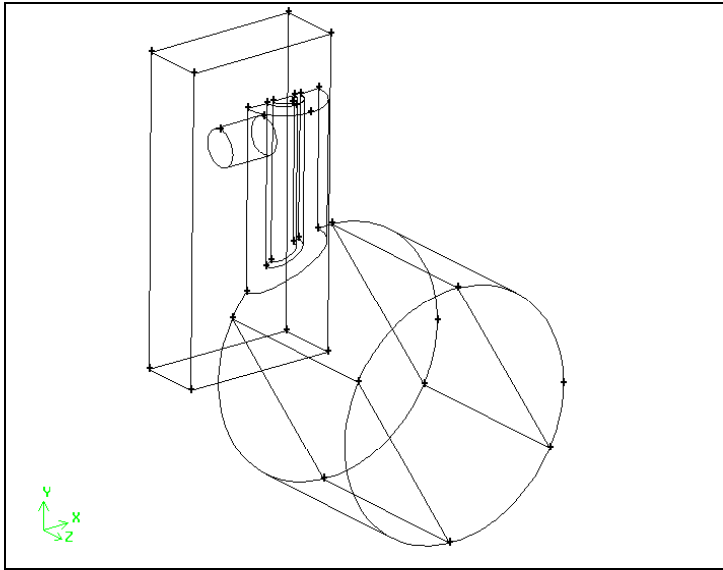

Figure 7-18: Brick subtracted from the pipe geometry
*The brick will be subtracted from the pipe geometry as shown in Figure 7-18. Notice that the brick is still displayed in this figure, this is because the Retain check box is selected in the **Subtract Real Volumes** form.*